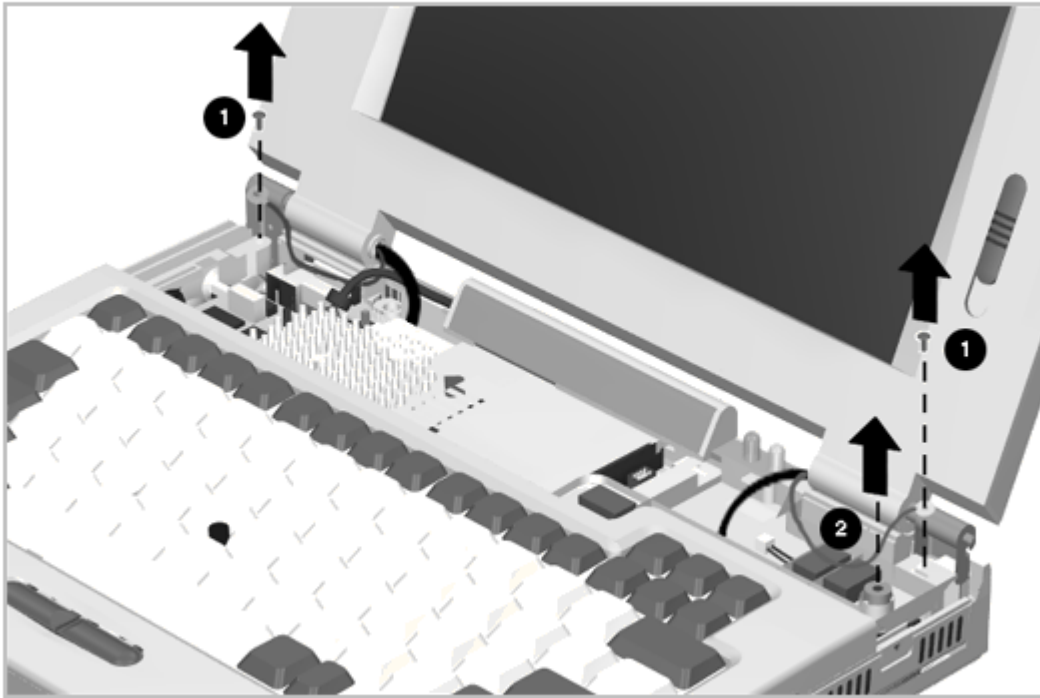

Figure 5-38. Removing the Keyboard Screws and Microphone
3. Remove the screws [1] from the rear corners of the keyboard (Figure 5-38). Note that ground lugs are attached by these screws.
4. Remove the microphone [2] (Figure 5-38). You can leave it attached to its extension cable.